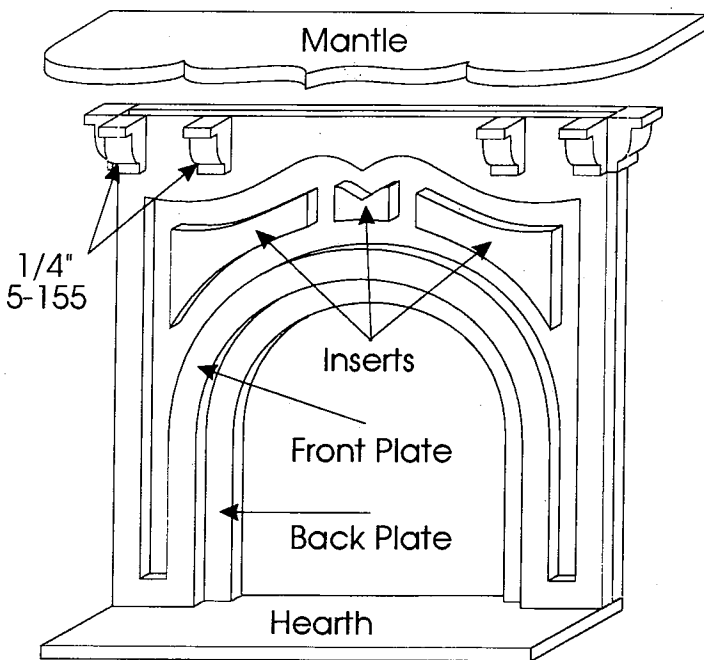

Figure 14
3. Assemble 2nd Floor Fireplace as in Fig. 14.